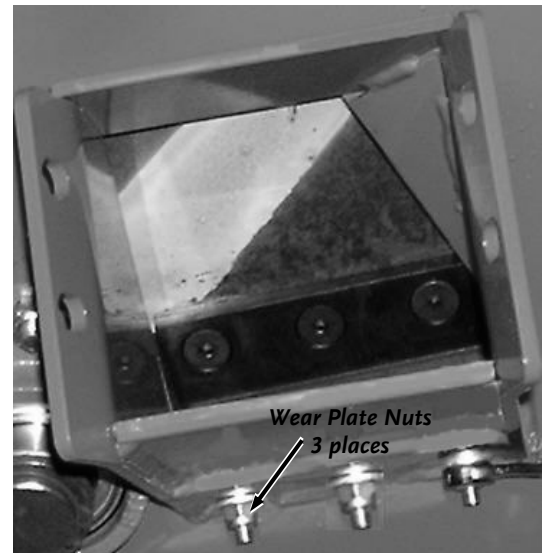

Figure 26
5. To adjust the Wear Plate Gap, loosen the three 1/4" Nuts using a 7/16" Wrench (**Figure 26**). Now slide the Wear Plate up or down (in or out) to achieve the correct gap setting.